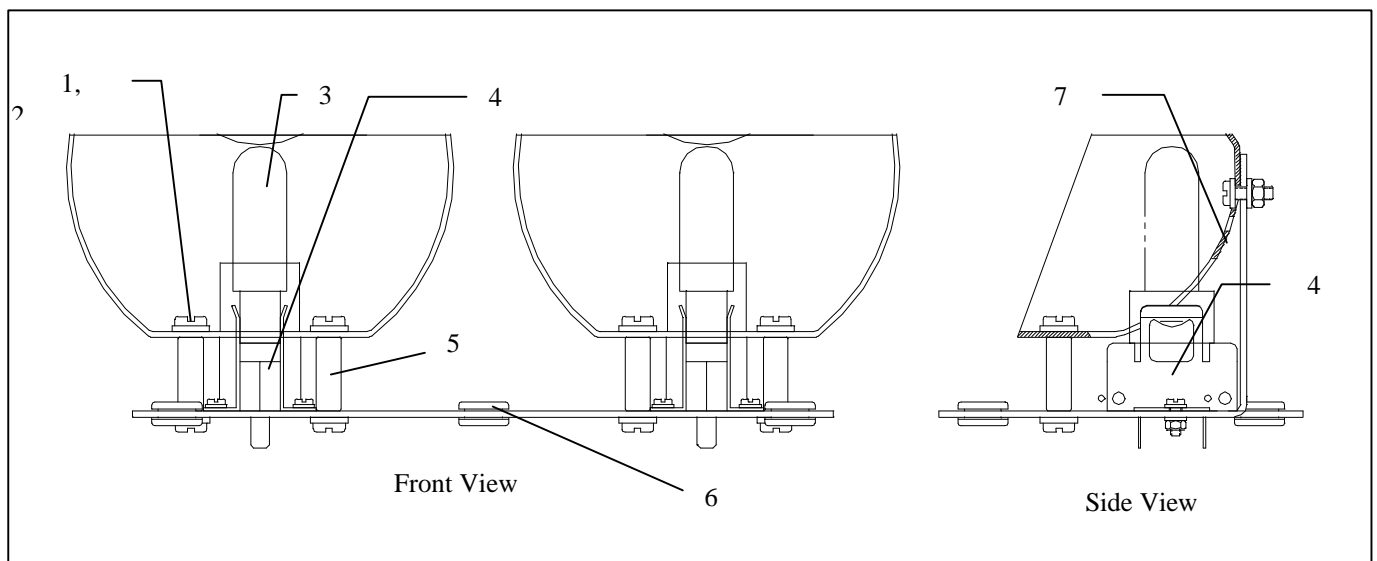

Figure 17. Optical Assembly
3. See Figure 17. Remove screws (1), washers (2), and grommets and spacers (6).
2. See Figure 17. Install new rubber grommet and spacer (6) in the optical plate.
5. See Figure 17. Apply no more than one drop of Grade AV Loctite to each of the four screws (1) and secure in place.